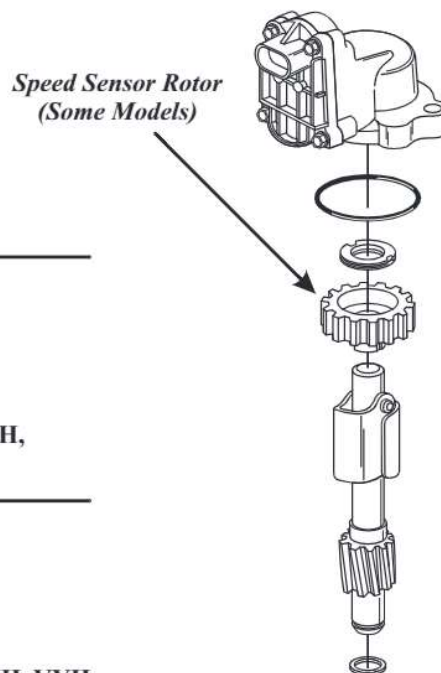

Figure 109
4. Correct the pin length as necessary using the chart in Figure 109.